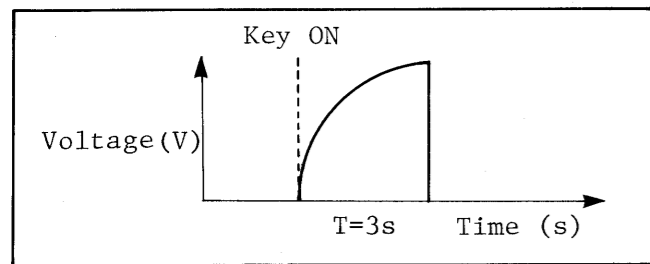

Fig. 38
- (1) Disconnect 10P- and 5P-connectors (connected to ports WR through RESET) on rightmost side of CPU BOARD.
- (2) Connect oscilloscope (2V/cm, 0.5s/cm) to TP6 pin 1.
- (3) Adjust ENV TIME VR6 of CH1 for 3-second attack time from pressing of key. (Fig. 38)